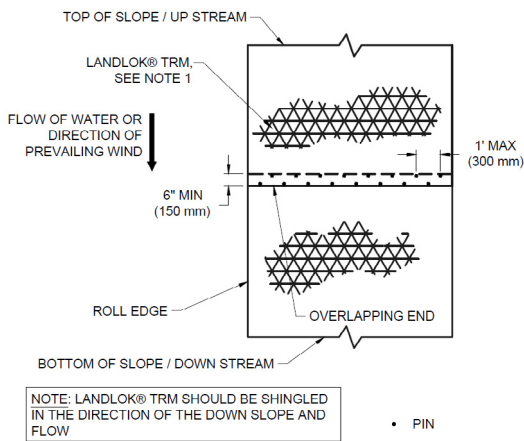

Figure 14: Roll End Overlap
- Roll ends shall be overlapped a minimum of 6 in (150 mm) with upstream panel on top. Secure roll end overlaps with two rows of pins staggered 6 in (150 mm) apart on 12 in (300 mm) (Figure 14)